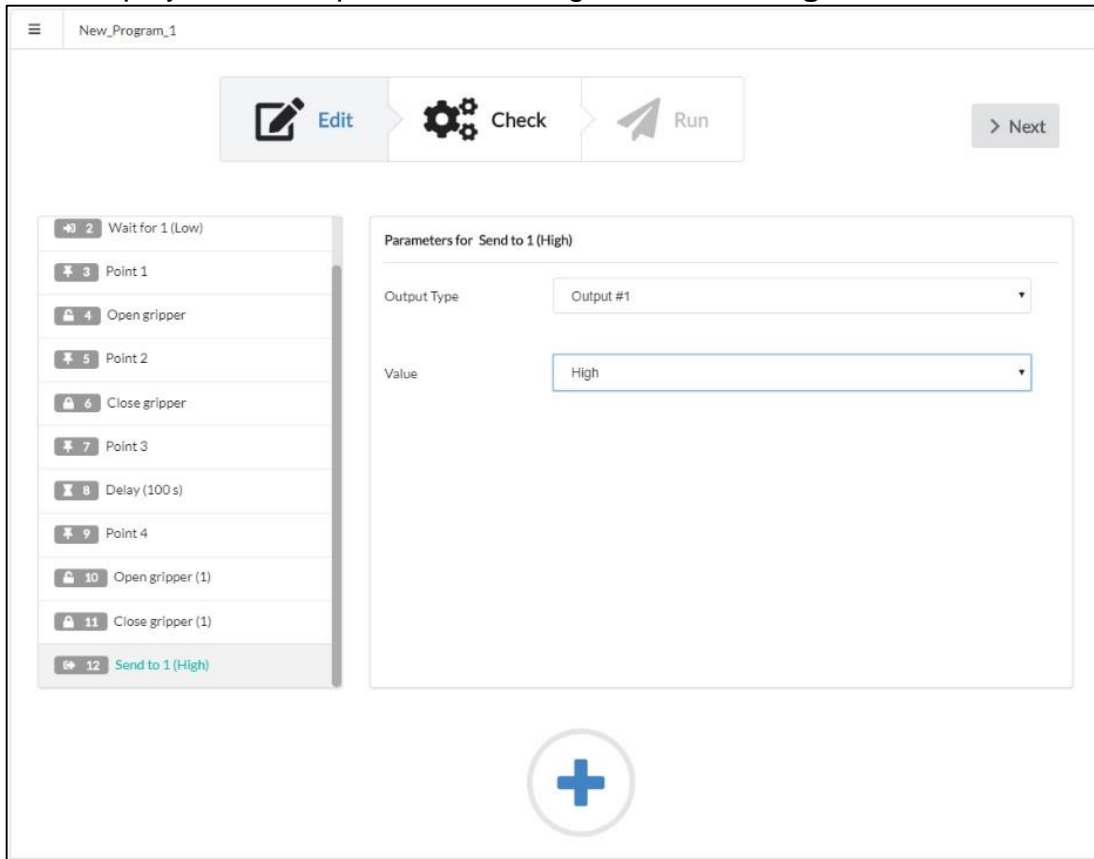

Figure 5-6: Setting parameters for the “Send to” command
1. In the **Program Body**, select the required **Send to** command line. The **Service panel** displays fields for parameter setting as shown in **Figure 5-6** below.